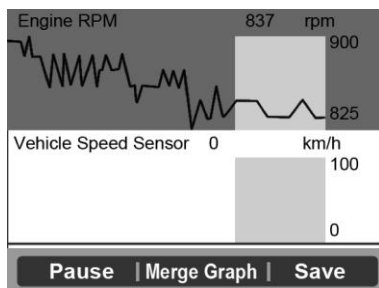

Figure 5.30
- 4) Press the Function button corresponding to **Two Graphic**, the screen will show two graphs as Figure 5.30.